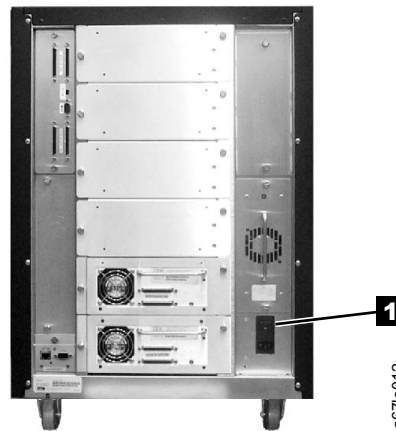

Figure 78. Main power switch
2. Push I on the main power switch (**1** in Figure 78) to turn on the power.
2. Push O on the main power switch (**1** in Figure 78 on page 96) to turn off the power. Power is removed from the tape library.
Push O on the main power switch (**1** in Figure 78 on page 96) to turn off power. Power is removed from the tape library. All picker movements stop immediately.